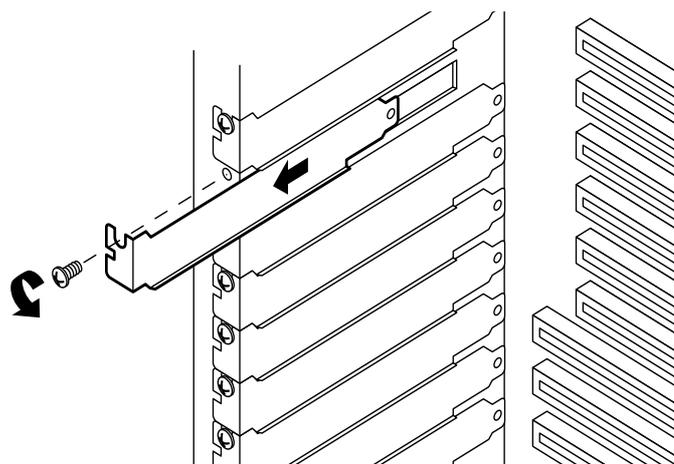

Figure 7-4 Expansion Slot Cover
See Figures 7-4, 7-5 and 7-6
6. Install an expansion slot cover (Figure 7-4) over the vacant slot. The tapered foot of the cover must fit into the mating slot in the bottom of the expansion slot frame.